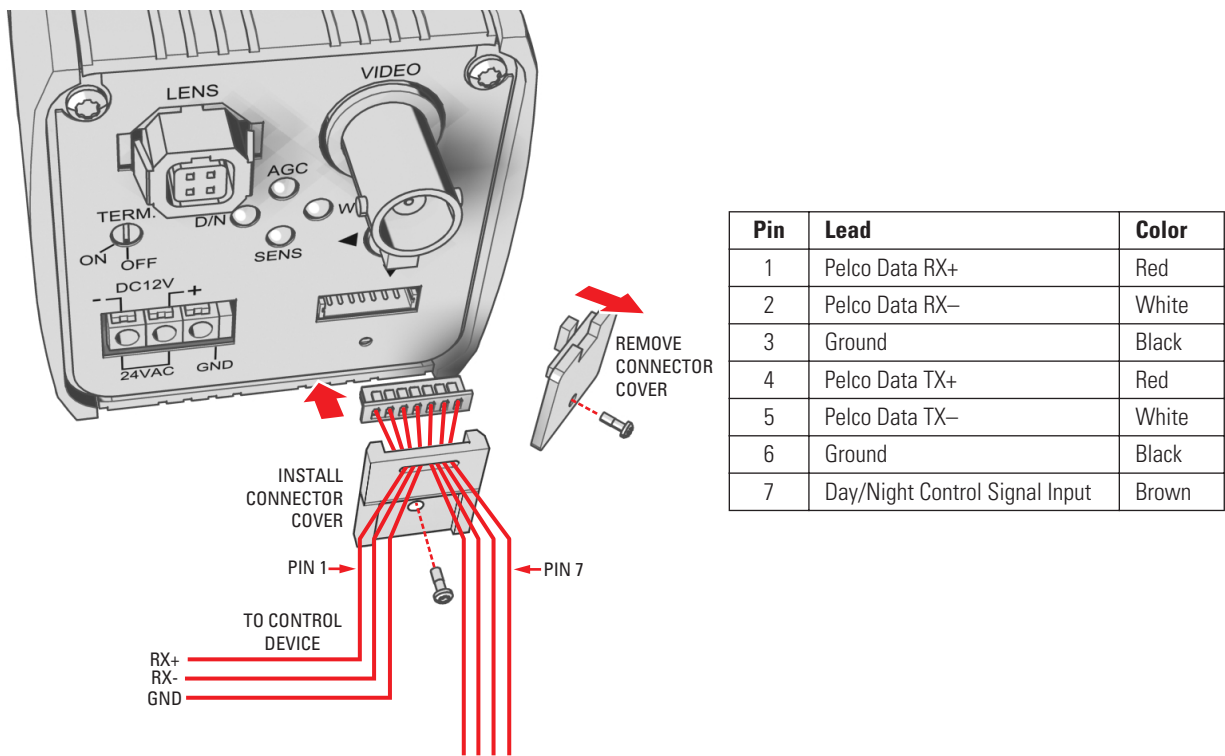

Figure 6. Installing the External Control Connector
Figure 6 identifies the pin connections for the enclosed external control connector assembly. It also identifies pins 1 and 7.
2. If necessary, use a small Phillips screwdriver to remove the connector cover from the rear panel (refer to Figure 6).